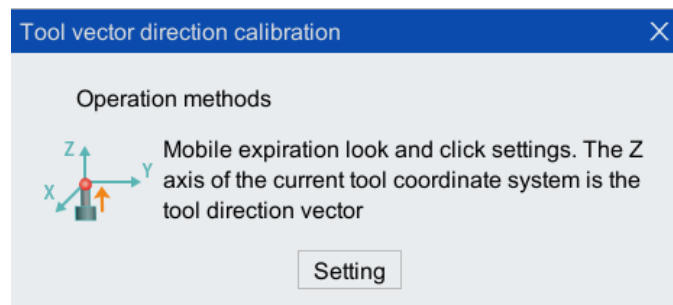

Figure 5-34 Tool direction vector setting interface
Step4. In the pop-up [Tool vector direction calibration] interface (as shown in Figure 5-34), follow the prompted operation method for calibration and click <Setting>.